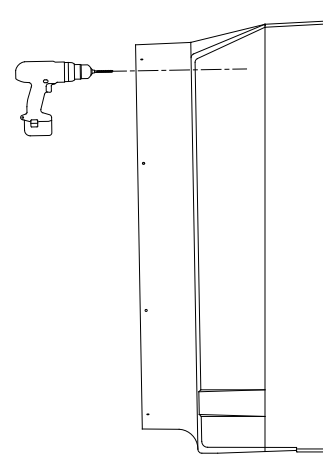

Figure 9
From outside of Fan Housing, drill (4) 1 5/32" holes in Housing using pilot holes from previous step as a guide. See Figure 9. Be very careful as to NOT drill into Threaded Insert. It is recommended that the bolts installed in outermost holes be loosened or removed to move Strut Assembly away from Housing before drilling.